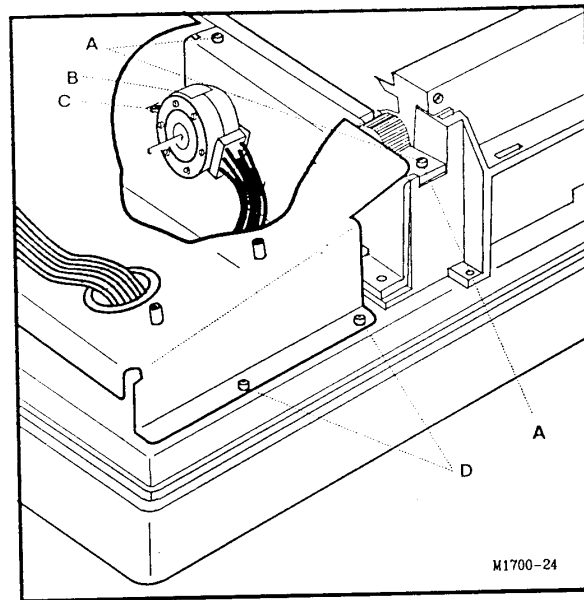

Figure 7-8. Printer Drive and Keyboard Ground Plane Screw Locations.
4. Remove the four screws that attach the keyboard ground plane to the upper chassis and set the keyboard ground plane aside. Callout D in Figure 7-8 shows two of the screws.
5. Remove the screw (callout C in Figure 7-8) that attaches the motor ground spring to the upper chassis.
7. Remove the two screws (callout A in Figure 7-8) that attach the plastic gear housing to the cardiograph.
The motor ground spring (callout B in Figure 7-8) and the motor ground spring attaching screw (callout C) were not included on units having a serial number prefix of 3208A, and may be left off.